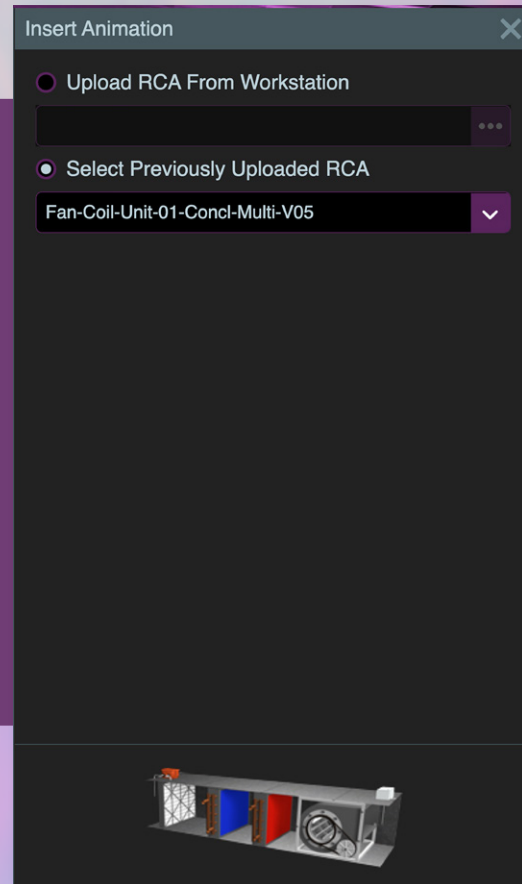

Figure 2: Insert Animation dialog box.
- Upload new animations or select a previously uploaded animation in the gallery. (Figure 2)